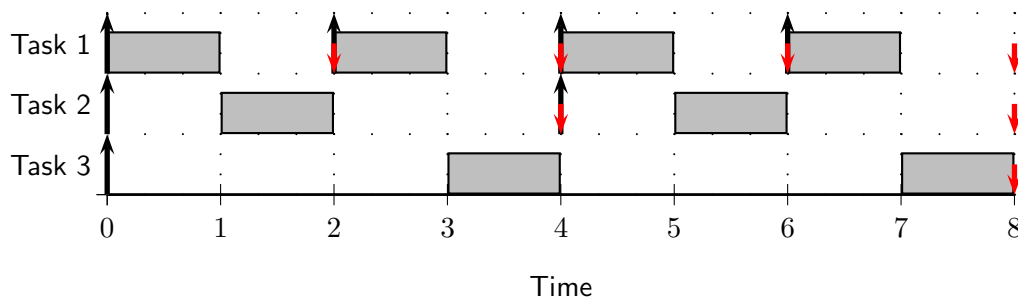

Figure 1: RM Schedule.
- (a) (5 points) Schedule all tasks in Table 1 using Rate Monotonic (RM) scheduling. Draw the RM schedule in Figure 1. Do all tasks meet their deadlines?